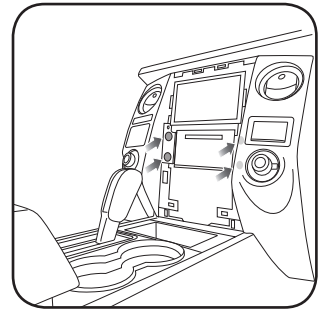
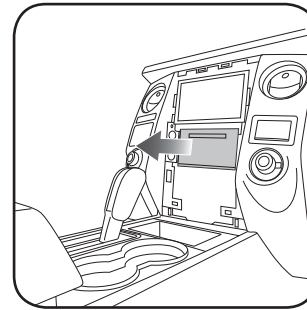

Fig. 1.4
Fig. 1.5
3. Remove four (4) screws holding the radio. (Fig. 1.4) Remove and unplug the radio. (Fig. 1.5)